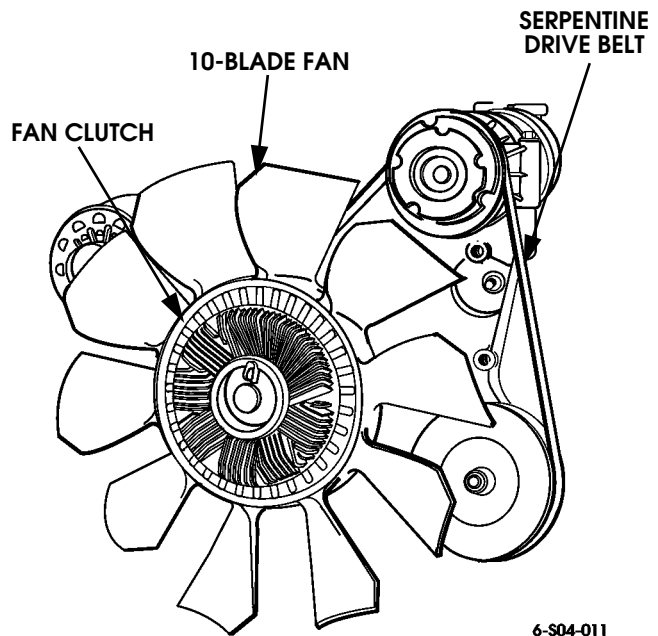

Figure 4-26: Fan and Clutch Mounting
6. Remove fan and fan clutch (Figure 4-26). Then remove pump pulley.